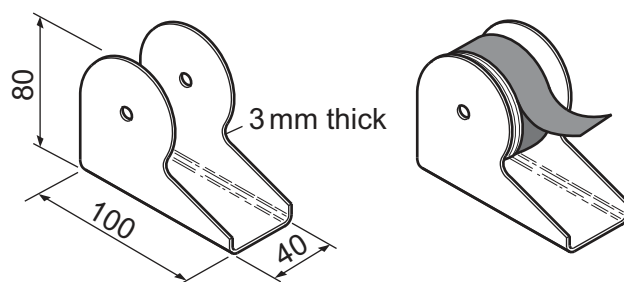

Figure 10.1
- 10 Figure 10.1 shows views of an incomplete design for a tape holder made from 3 mm thick acrylic.